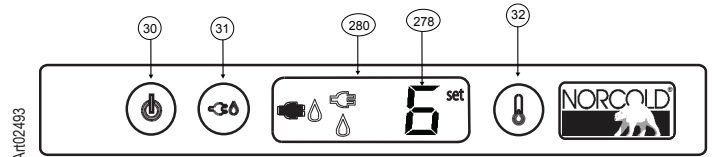

Fig. 12 - Control Locations
Push and release the Power ON / OFF button [30] (See Fig. 12) to turn on the refrigerator.
Push and hold the TEMPERATURE SET button [32] (See Fig.12) to scroll through temperature settings, one after the other. Release the TEMPERATURE SET button when the desired temperature setting appears.
There are nine (9) temperature settings [278] (See Fig.12).
- Number one (1) is the warmest temperature setting.
- Number nine (9) is the coldest temperature setting.